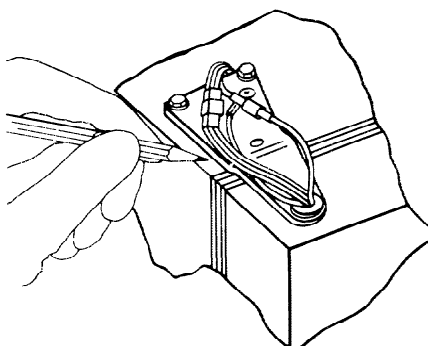

FIGURE 12
3. Mark the location of the hinges with a pencil on the painted cabinet prior to removing hinge. See Figure 12.